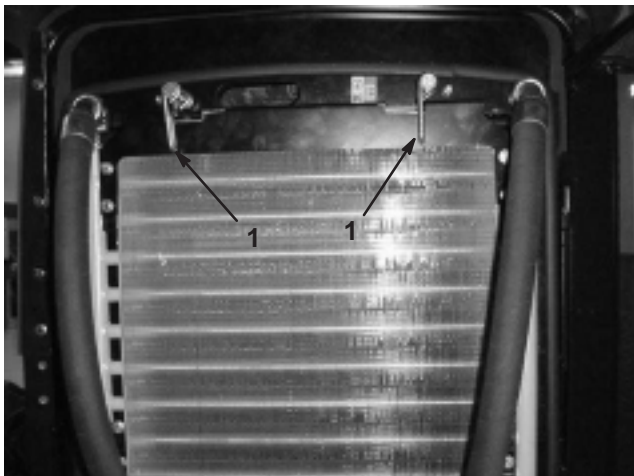

Figure 33
- Rotate latches (Fig. 33) securing the oil cooler to the frame.